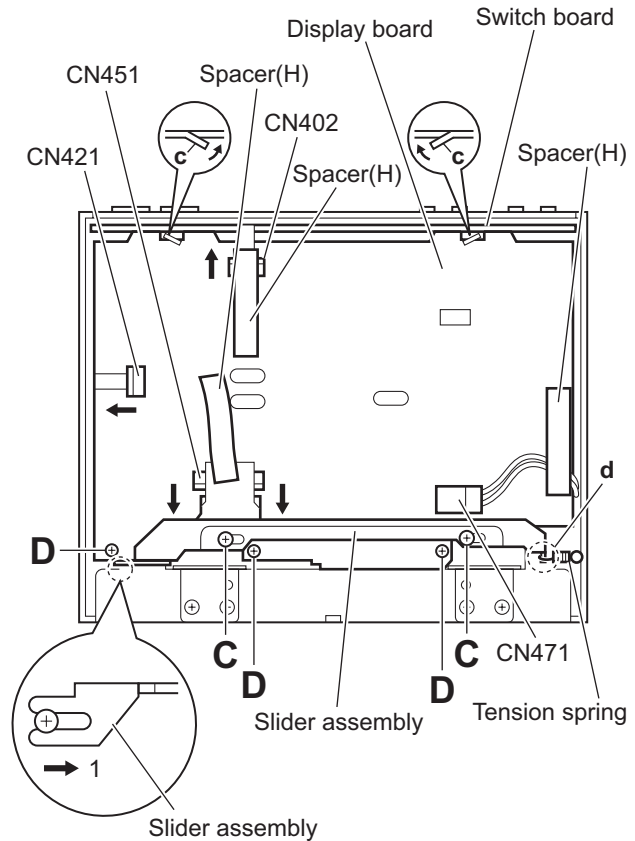

Fig.4
- (2) Take out the switch board from the display unit.
3.3.3 Removing the display board (See Fig.4)